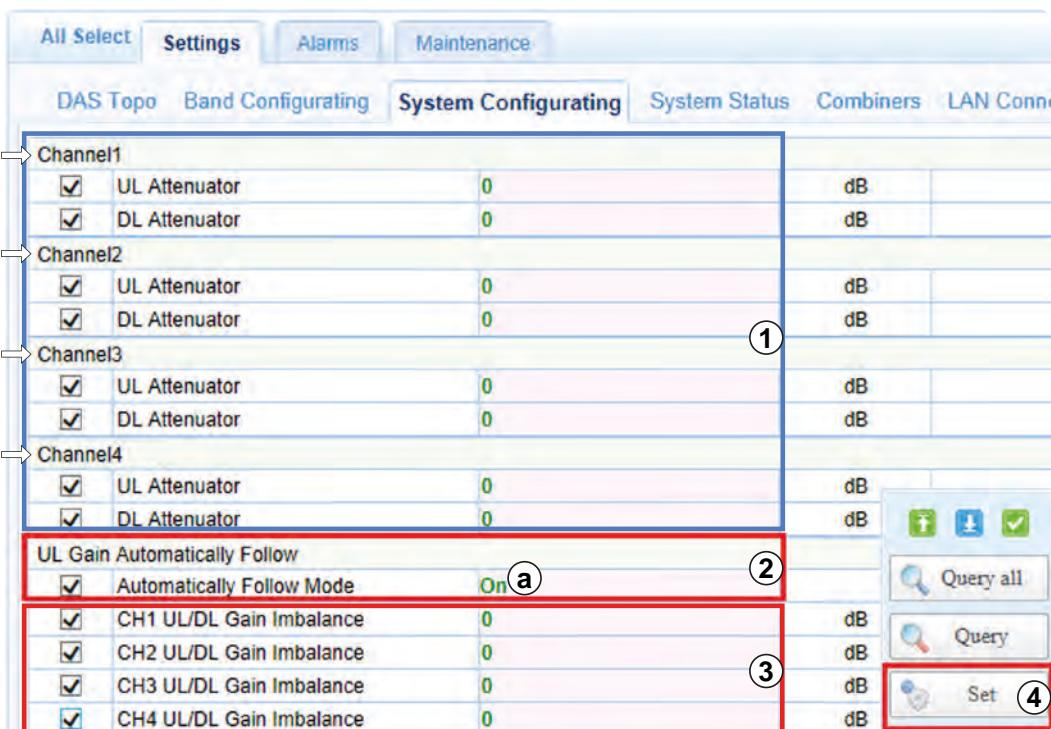

Fig. 13: Band gain parameters (C-hub)
3. Set the **UL Gain Automatically Follow** mode **On** or **Off** (②ⓐ in Fig. 13).
- a. Configure the **UL/DL Gain Imbalance** for each C-hub channel (③).